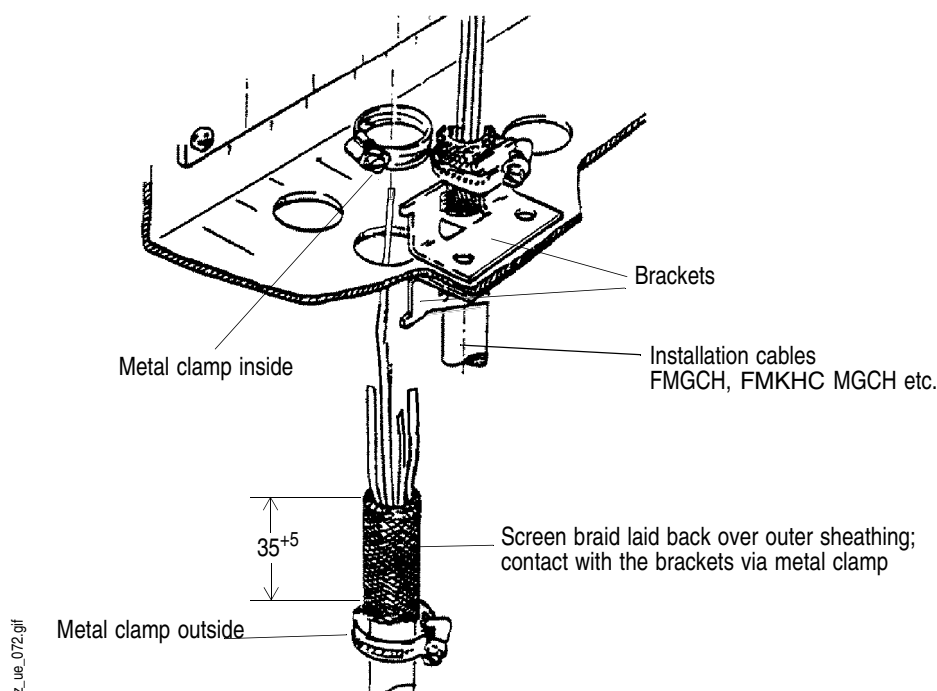

Fig. 3-1 Cable inlet consisting of a hole with brackets
- In the case of a unit whose **cable inlet consists of a hole with brackets** attached on the inside and outside, the cable must be dressed as shown in Figure 3-1.